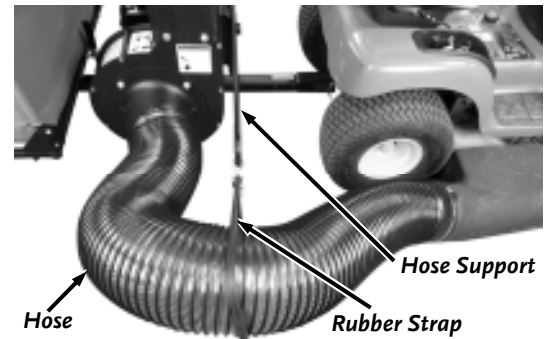

Figure 75
1. Remove the Rubber Bungee from the Hose Support (**Figure 75**).